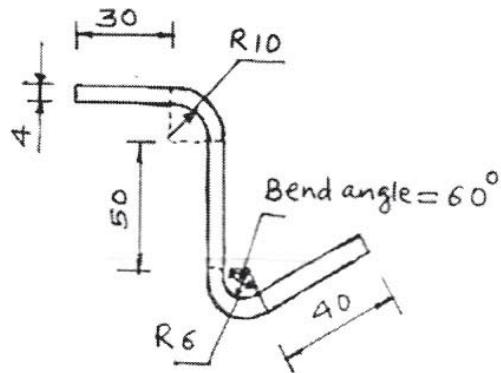

Figure No.2
- b) Calculate developed length of the part as shown if figure no. 2. [8]